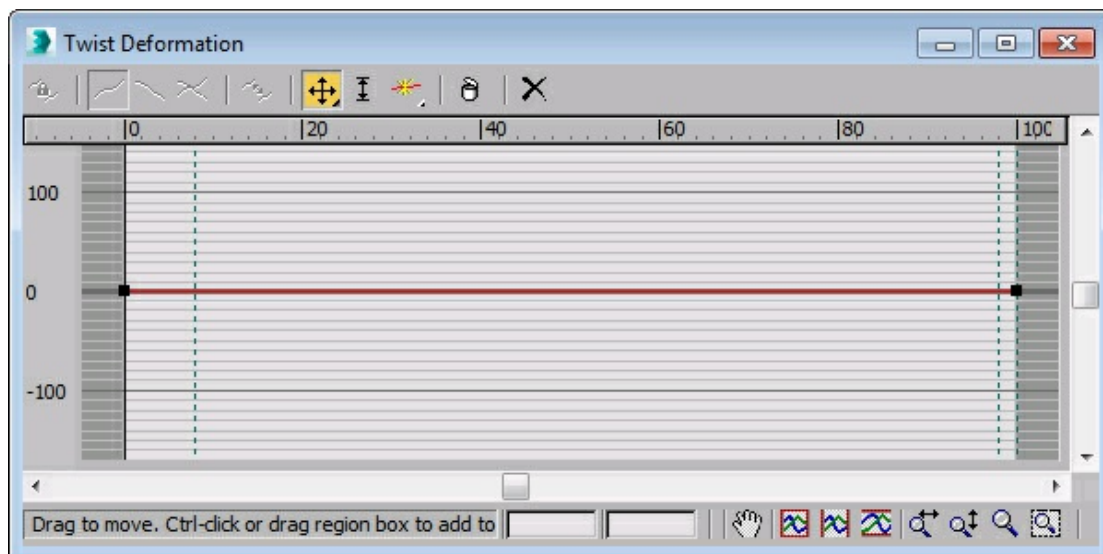

Figure 11-77 The Twist Deformation dialog box
16. In the modifier stack, select **Loft** and expand the **Deformations** rollout in the Modify panel. Now, in the **Deformations** rollout, choose the **Twist** button; the **Twist Deformation** dialog box is displayed, as shown in Figure 11-77.